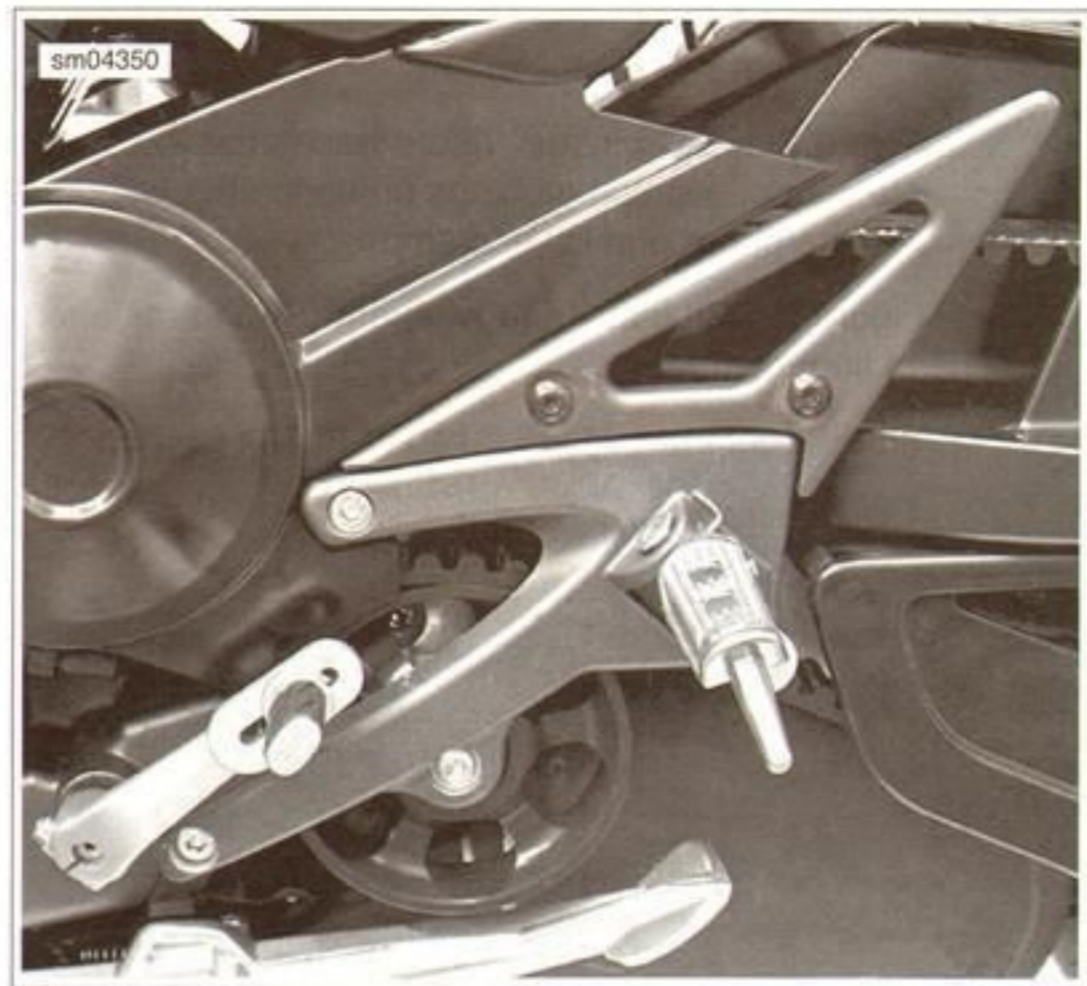

Figure 2-152. Left Side Footpeg Mount
1. See Figure 2-152. Remove heel guard fasteners and heel guard.